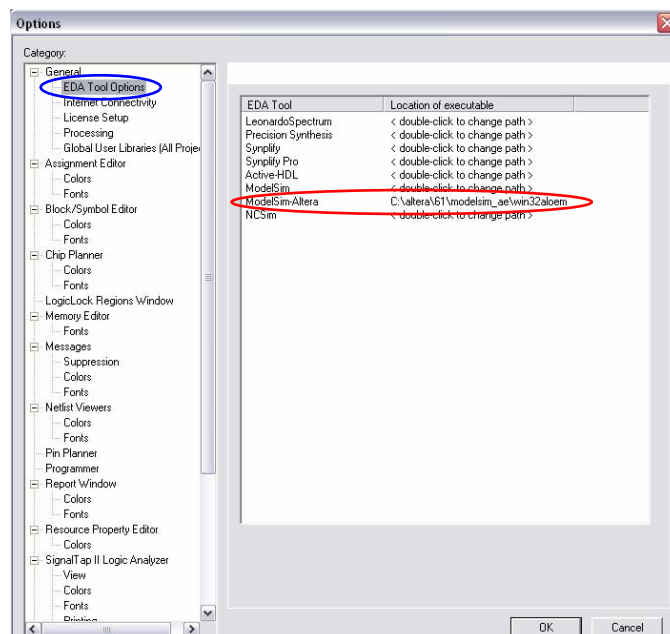

Figure 3: Options dialog box
- From the **Category** list select **General** and the **EDA tool options** (highlighted in blue in figure 3);
- Specify for the desired **EDA Tool**, **ModelSim-Altera**; the path to reach the executable files of the tool, for ModelSim-Altera are stored in win32aloem (highlighted in red in figure 3);
Figure 3 reports the Options dialog box: